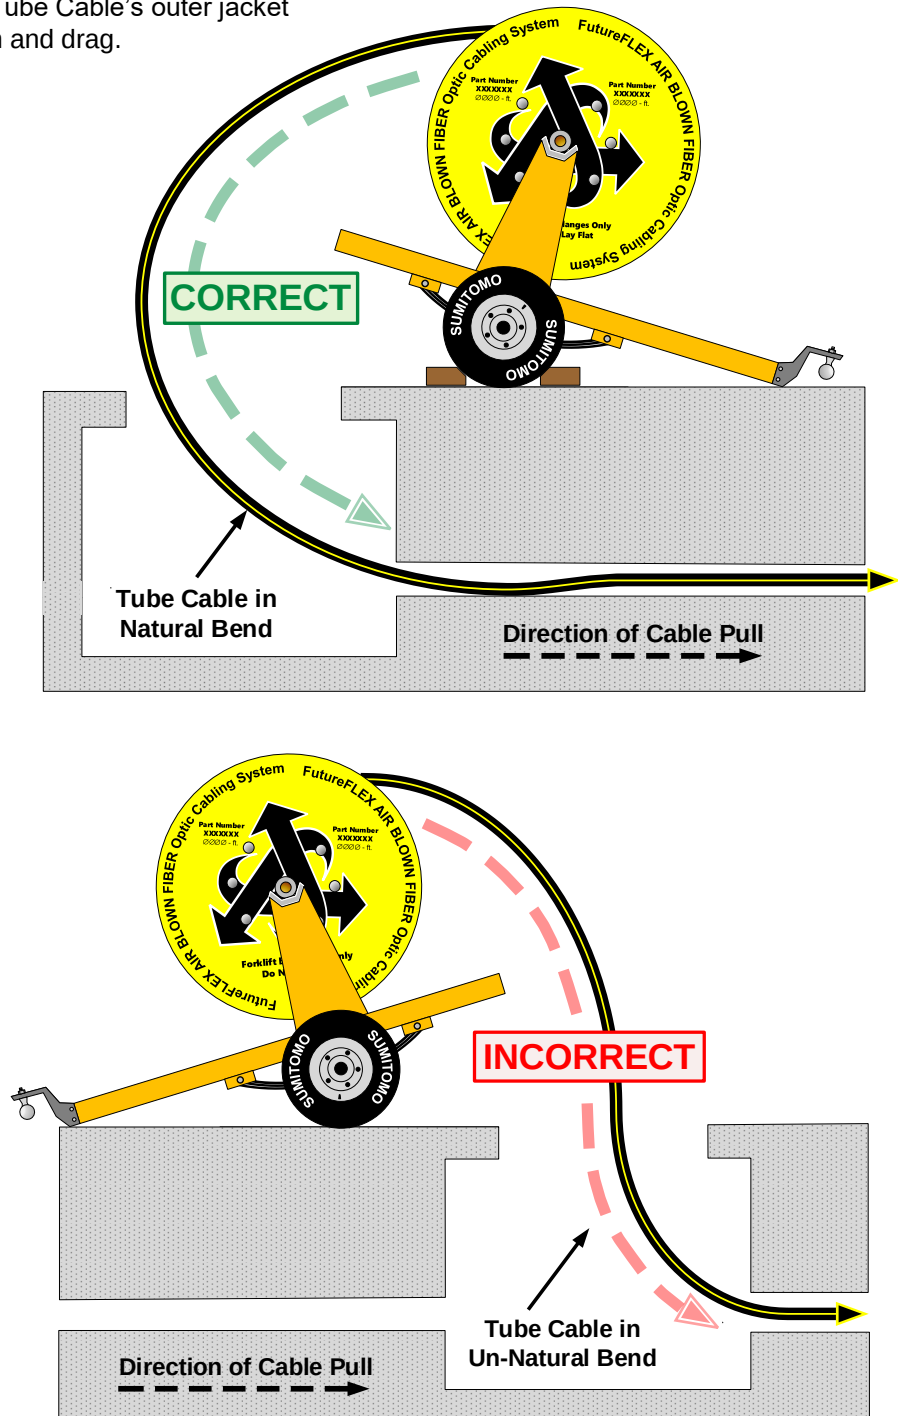

Figure 18
16.1.3 Position Tube Cable reel so that it is on the same side of the maintenance hole as the direction of the pull with cable payoff from the top. **See Fig. 18.**